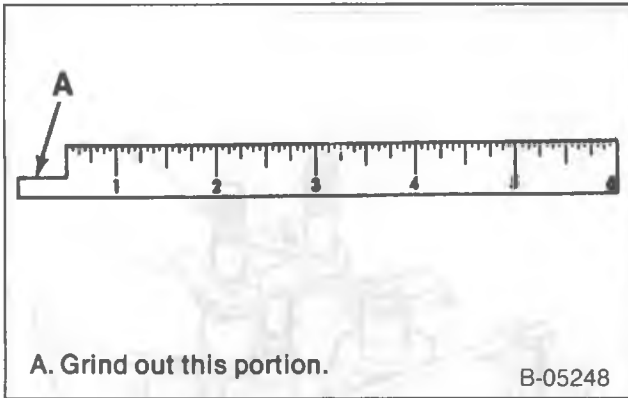

Figure 26—Scale for Checking Valve Spring Installed Height
1. Use a narrow thin scale. A cutaway scale (figure 26) may be helpful.